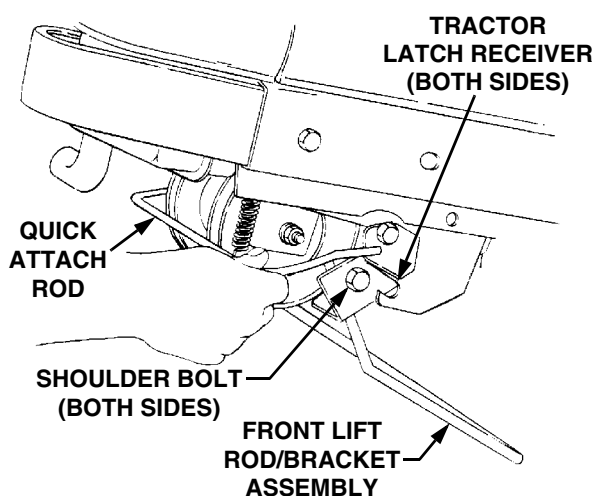

Figure 48
10. From the front of the tractor, push downward and hold the tractor quick-attach rod. Pull the front lift rod/bracket assembly forward to release the shoulder bolts on each side of the bracket from the left and right tractor latch receivers. Release the tractor quick-attach rod (Refer to Figure 48).